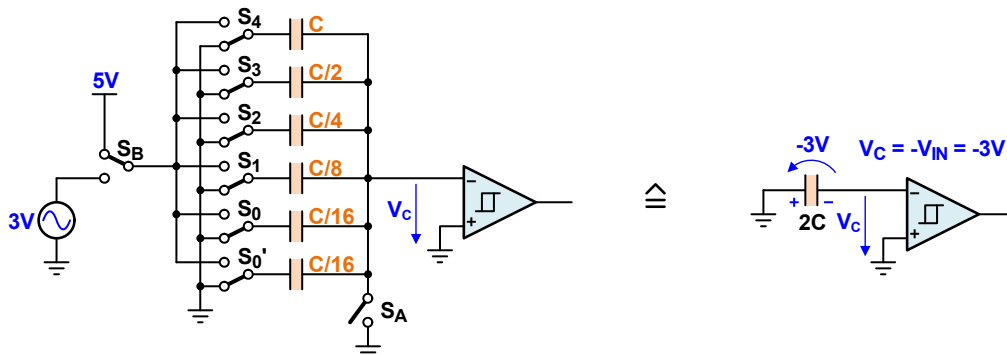

Figure 6. Hold Mode: All Capacitors are Charged up to  $V_{IN} = +3V$
**Hold Mode:** The left side of the capacitors is connected to ground using  $S_4$  to  $S_0'$ . The common (right) side of the capacitors is disconnected from ground using  $S_A$ , therefore, creating a comparator input voltage of  $-V_{IN} = -3V$  (Figure 6).